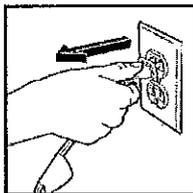

Fig. 5
- Make certain that the air washer is OFF and the unit is unplugged (Fig. 5).